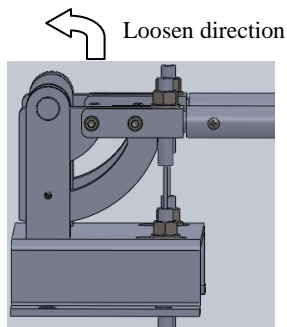

Figure 10
④ Pull the handle to rotate round the shaft, as the brake opened, the brake-loosing movement is finished. Be shown as figure 10: